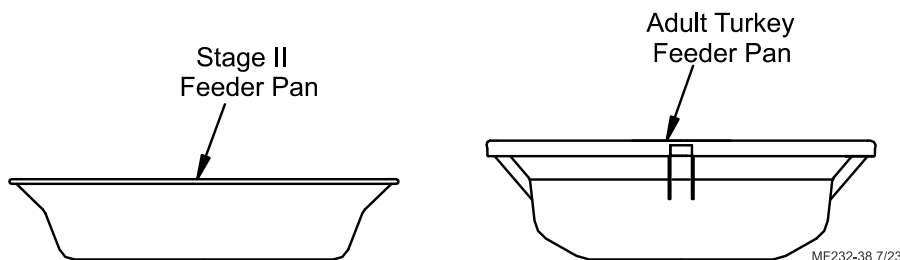

Figure 15. Feeder Pans
2. Determine which Feeder Pan (Adult Turkey or Stage II) is to be installed, see **figure 15**. Refer to appropriate assembly section. The basic assembly and installation of the Stage II Feeder is the same as the Adult Turkey Feeder. The two primary differences being; 1) the feeder pan design, and 2) installation of the Feed Level Tube.